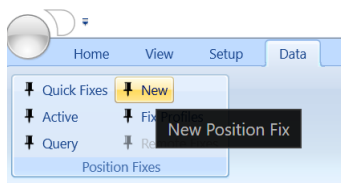

FIGURE 14-99 POSITION FIXES – DATA RIBBON – NEW
1. Open the Explorer window and navigate the tree to select **Position Fixes/Active** under **Database Services** (see Figure 14-99)
1. Open the Explorer window and navigate the tree to select **Position Fixes** under **Database Services** (see Figure 14-99)